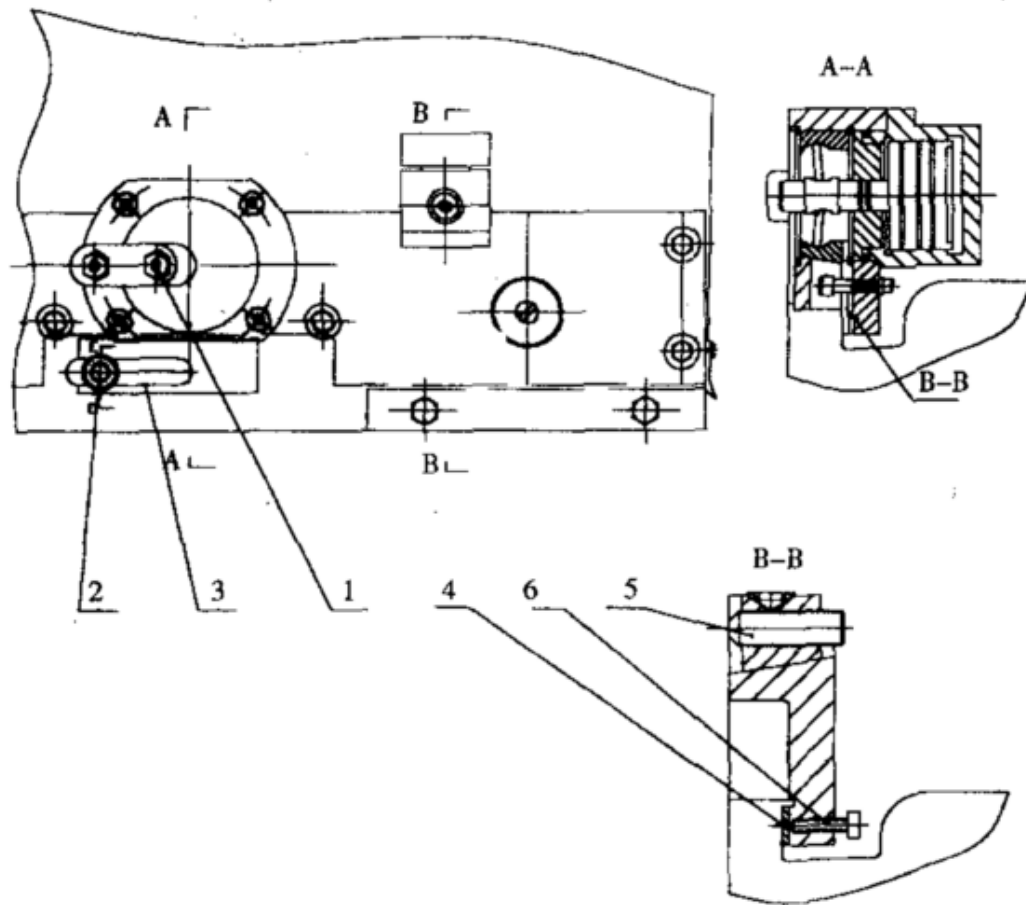

Figure 7.1
7.2.1 Adjustment of the spindle clamp force (see Figure 7.1)